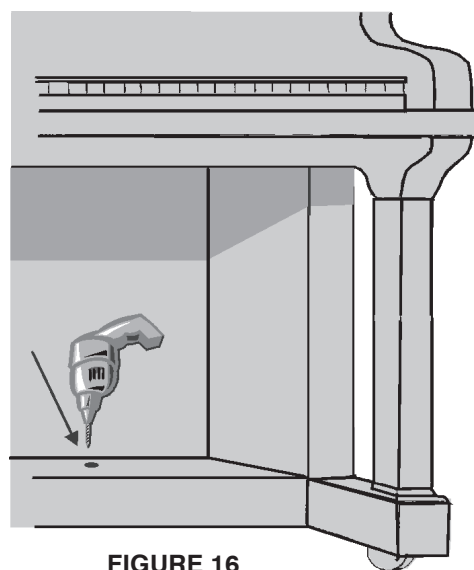

FIGURE 16
*You may prefer another method of running the power cord out of the piano. If you feel comfortable drilling a hole in the bottom board, you can bring the power cord out through the hole (**Figure 16**). To provide strain relief for the cord, knot it and secure the knot to an appropriate wood area with one of the 6 mm clamps provided.*